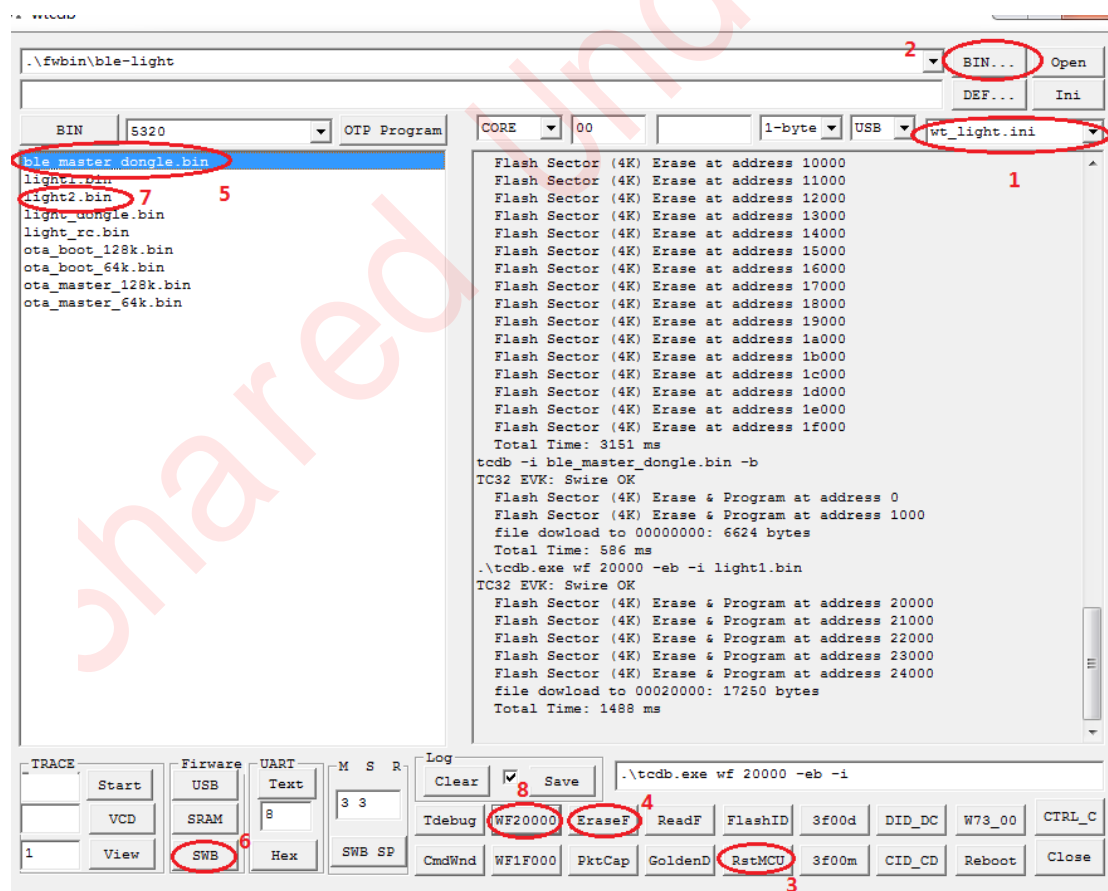

Figure 37 Burn ble_master_dongle.bin and new firmware into update board
- 2) Connect the update board, EVK board and PC. According to steps in Figure 37, download the ble_master_dongle.bin into flash address starting from 0x00 of the update board, and burn the new firmware (e.g. light2.bin) into the flash address starting from 0x20000.